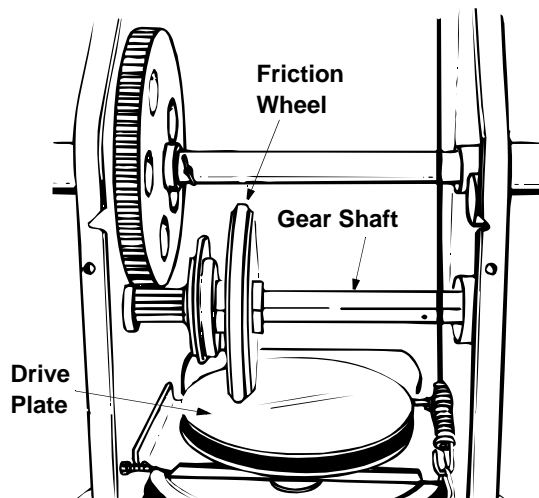

Figure 17
- With the traction control clutch released, there must be clearance between the friction wheel and the drive plate in all positions of the shift lever. With the traction control clutched engaged, the friction wheel must contact the drive plate. See Figure 17.